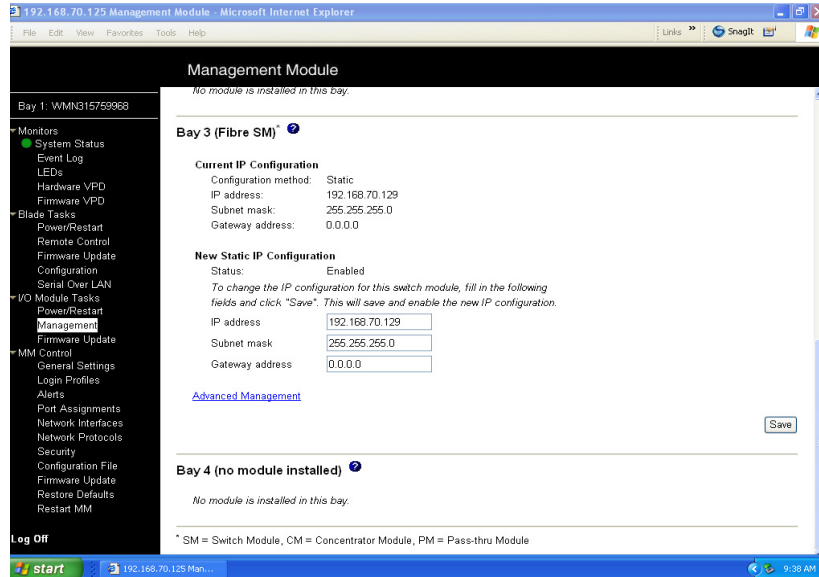

Figure 26. Switch Management window showing switch module 3 example.
- Click the link for either switch module 3 or switch module 4. A window similar to the one in Figure 26 opens.